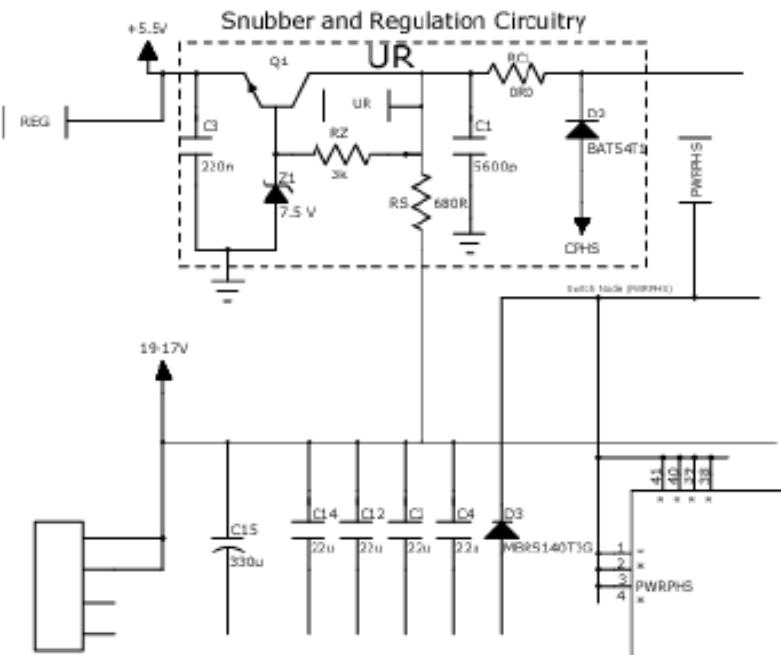

Figure 4 - Reference Schematic for 17V-19V Input
- NCP3102采用简单的外部电路来将输入电压能力从13.2 V扩展至19 V。NCP3102的内部脉宽调制(PWM)控制部分使用与功率场效应管(FET)不同的电源输入端。因此，图4中显示的缓冲器和稳压电路能够单独为低压控制部分供电。
was used to extend the input voltage capability of the NCP3102 from 13.2 V to 19 V. The internal PWM control section of the NCP3102 uses a different power rail than the power FET's. Therefore, the snubber and regulation circuitry shown in Figure 4 can power the low voltage control section separately.
- 图4和5中所显示的电路提供的作用是稳压器、启动延迟和缓冲器/电磁干扰(EMI)抑制器。The circuit shown in Figure 4 and 5 serves as a regulator, startup delay, and snubber / EMI suppressor.